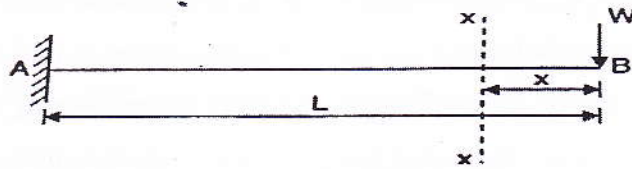

Fig.5b
- b) A cantilever beam of span L carries a concentrated load W at the free end as shown in fig. 5b. Find the deflection under the load by strain energy method